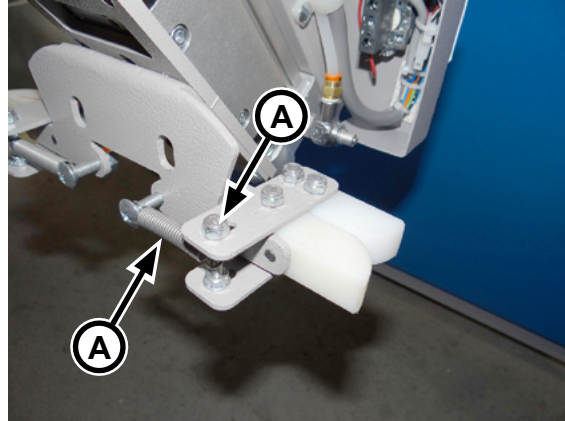

Figure 7-1: Feed clip tension is controlled by a spring.
2. Loosen the screw (Figure 7-1, A) and adjust the position in the slot to increase spring tension.
3. If desired, a second spring (Figure 7-1, B) can be added.